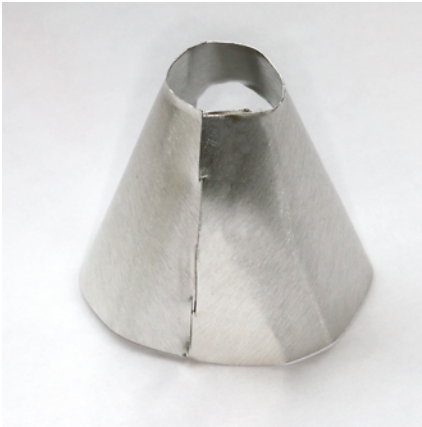

Fig 14: The waste steam cone
Step 120: Bend the part into a cone, with a big opening at the bottom, a small one at the top, and a large, rounded cut-out at one side. It is easy to do this with your fingers. You can also use a pencil to help with forming the shape. Bend the small tabs inwards, stick them through the slits on the opposite side, and then bend them fully back, see Fig 14.